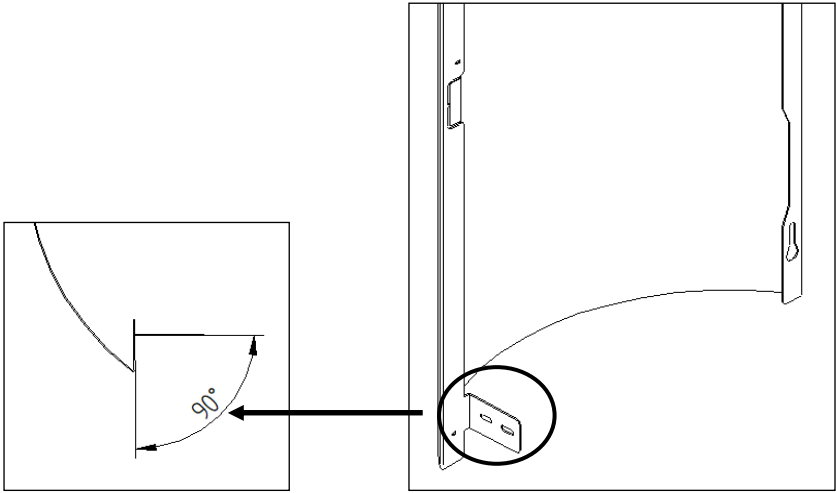

Figure 46 – Angle of the lower tab
e) Then to fit the side covers, first fold the tab as shown in Figure 46 to ensure that it is at an angle of less than 90°.